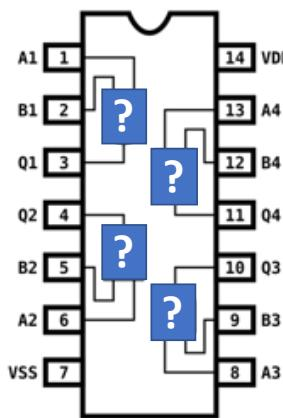

Figure 11: Obscured schematic of the 4071 and 4081 chips.
Figure 11 shows an obscured schematic diagram for these chips. This diagram is the same for both the 4071 and 4081. Typically, however, the schematic diagram for the chip will show the schematic symbol of the gates. In Figure 11, I have obscured those symbols with a '?' because you will be asked to figure them out.
9. Answer the following questions about these chips based on the schematic in Figure 11.